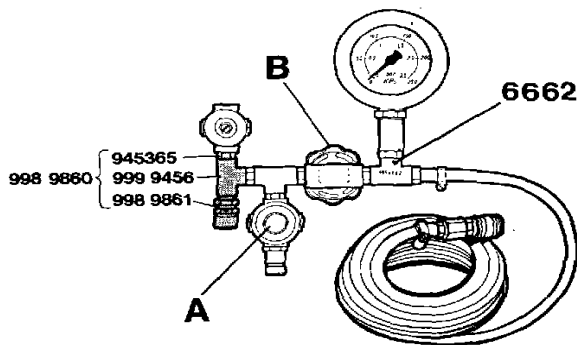

Fig. 150. Pressure-testing device
1. Check that the reducing valve wheel (A, fig. 150) is unscrewed and connect the hose from the pressure-testing device to the adapter, 6433.
4. Connect the pressure-testing device 6662 to the compressed air supply and open the cock (B).
5. Pull out the reducing valve wheel locking ring. Increase the pressure by screwing in the wheel until the gauge shows 70 kPa (0.7 kp/cm² = 10 p.s.i.). Lock the wheel by pushing in the locking ring and close the cock (B).